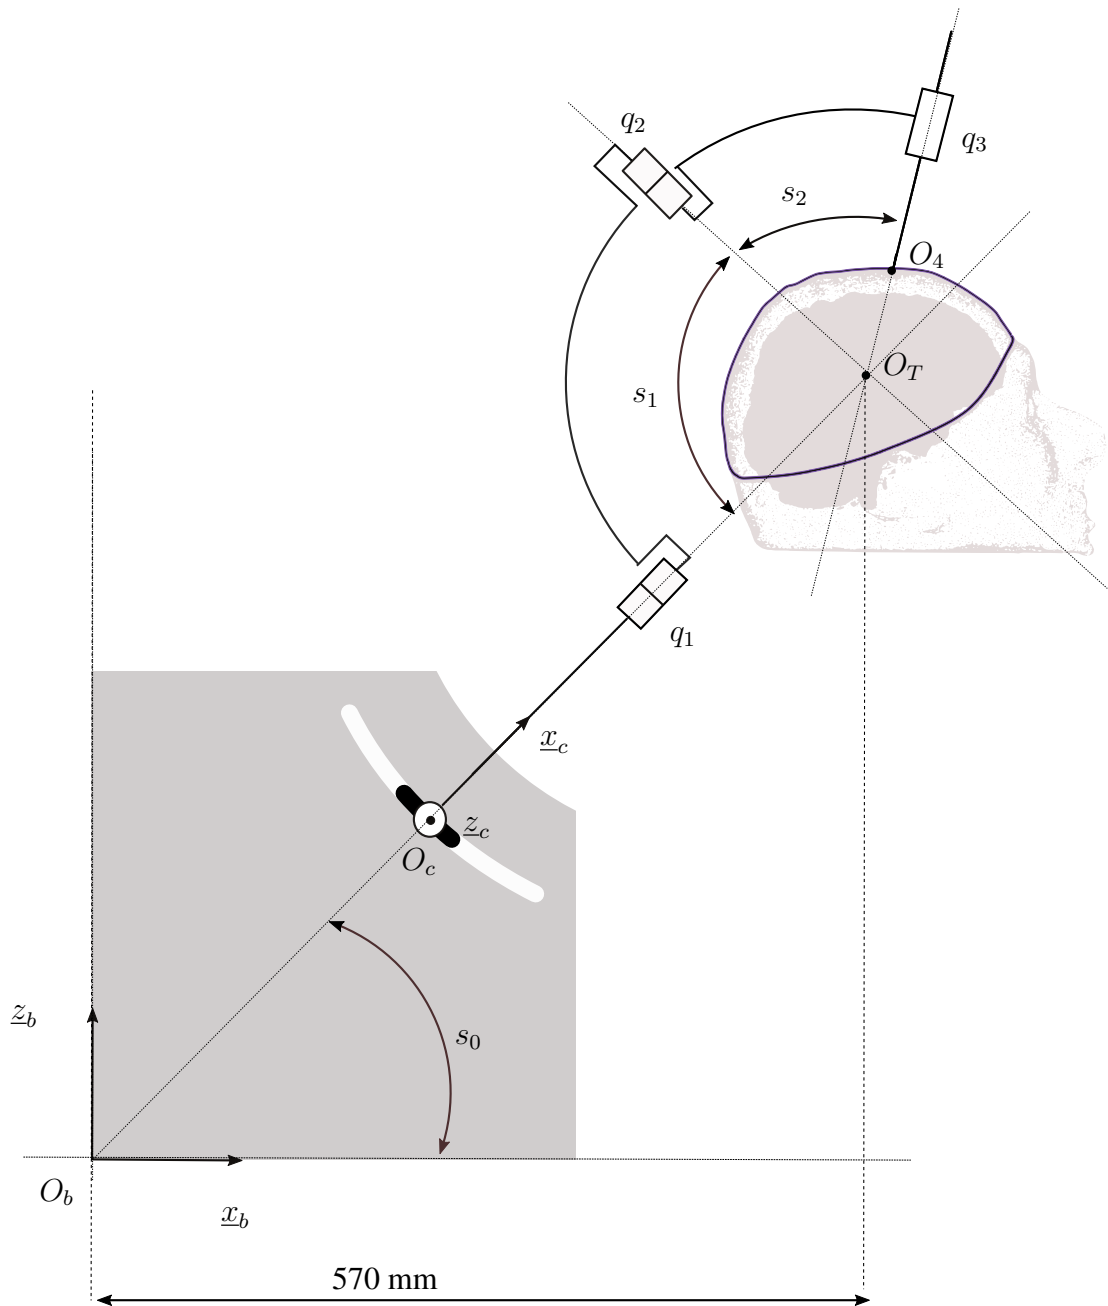

Figure 4: Supporting structure in planar sagittal configuration for parameterization.
The system parameterization will be performed using a printed version of Figure 4, provided by the teachers during the tutorial. The system has two circular  $s_1$  and  $s_2$  long segments. The angle  $s_0$ , which defines the rotation of the first body of the supporting structure, with respect to the robot base, is still considered as fixed in the present tutorial.
- 1 Why is Figure 4 appropriate for parameterization?
- 2 In Figure 4, place the frames  $\mathcal{F}_i = (O_i, \underline{x}_i, \underline{y}_i, \underline{z}_i)$ , for  $i = 0, \dots, 3$  using Denavit-Hartenberg modified parameters convention. Please, do not represent the  $\underline{y}_i$  axes as recommended.
3 When you will be working hard on the topic, for instance for the exam, check that you understand all the MATLAB code that has been implemented1. In particular, observe how `circular_arc.m` was modified, compared to the previous tutorial, in order to plot the robot links in a more generic way. Also observe how the last link is defined in the code: it can help you understand the respective positions of  $O_3$  and  $O_4$  in Figure 4 .